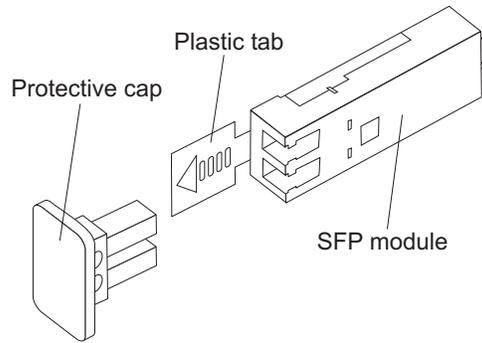

Figure 20. SFP Module
2. Remove the protective cap from the SFP module, as shown in Figure 20 on page 35. Save the protective cap for future use.
2. If necessary, remove the protective cap from the SFP module, as shown in Figure 20 on page 35. Save the protective cap for future use.